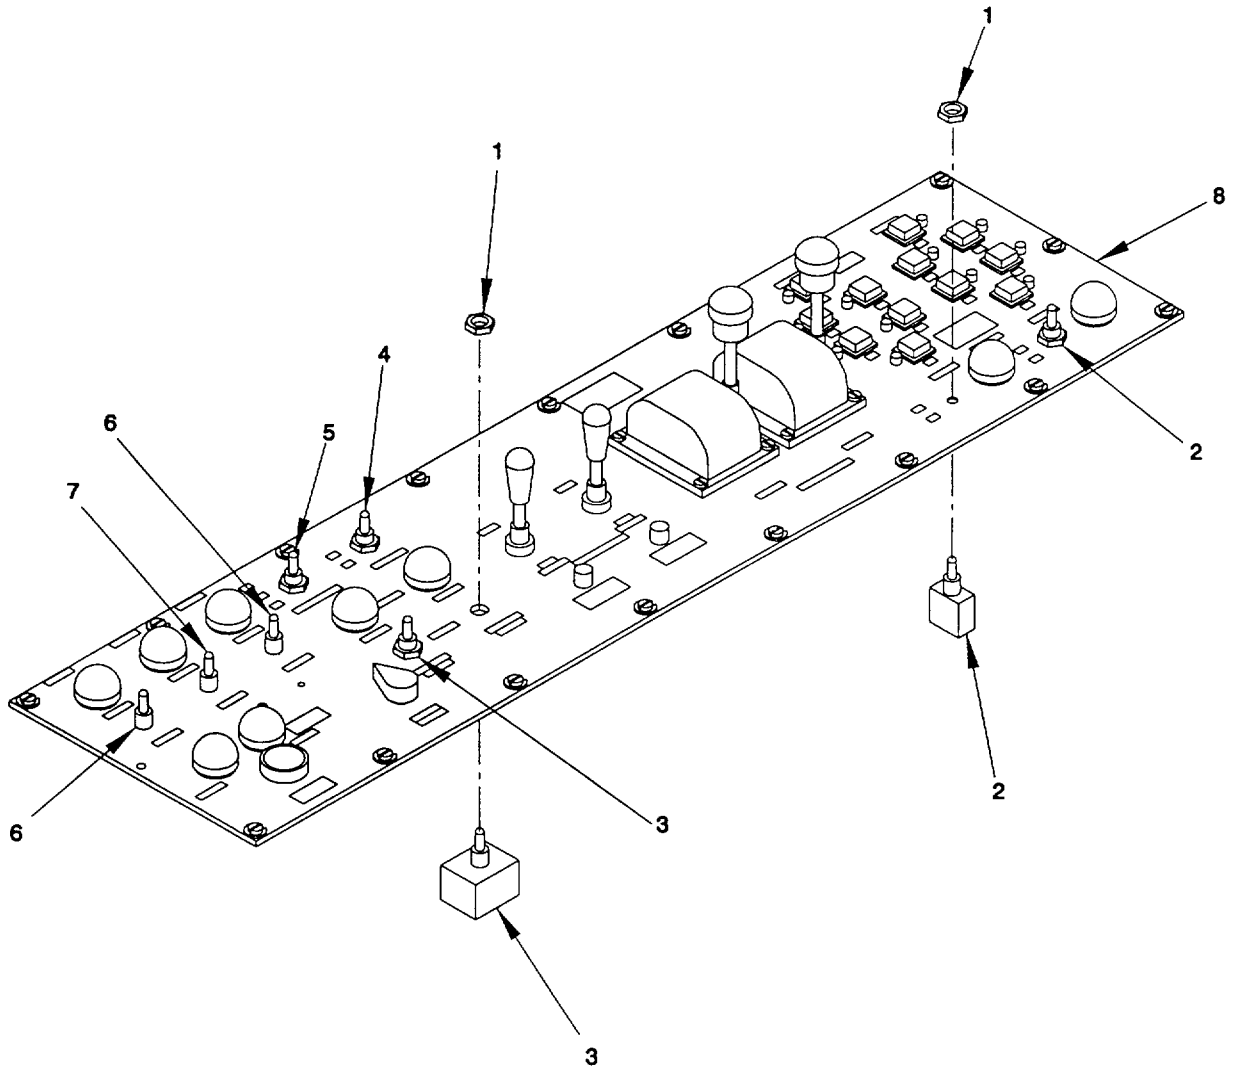

Figure 2-124. Toggle Switches, Lower Control Panel "A2", Remove/Install.
a. Remove. (figure 2-124)
- (1) Tag and disconnect electrical wiring to toggle switch. Refer to Appendix G.
- (2) For removal of the toggle switches (P/S vent fan switch S21 and S22 (2), P/S clutch engage switch S5 and S6 (3), defroster switch S25 (4), cab heater switch S4 (5), P/S fire alarm silence switch S1 and S3 (6), and flood alarm silence switch S2 (7)), remove the hex nut (1) (supplied with each switch) from the top side of the lower control panel (8). Remove the toggle switch from the bottom side of the lower control panel (8).
b. Install. (figure 2-124)
- (1) Position a new toggle switch (P/S vent fan switch S21 and S22 (2), P/S clutch engage switch S5 and S6 (3), defroster switch S25 (4), cab heater switch S4 (5), P/S fire alarm silence switch S1 and S3 (6), and flood alarm silence switch S2 (7) through the bottom side of the lower control panel (8). Secure with nut (1) (supplied with each switch) from the top side of the lower control panel (8).
- (2) Reconnect electrical wiring, as tagged, to toggle switch. Refer to Appendix G. Use tie wraps and mounting bases to secure any loose wiring.